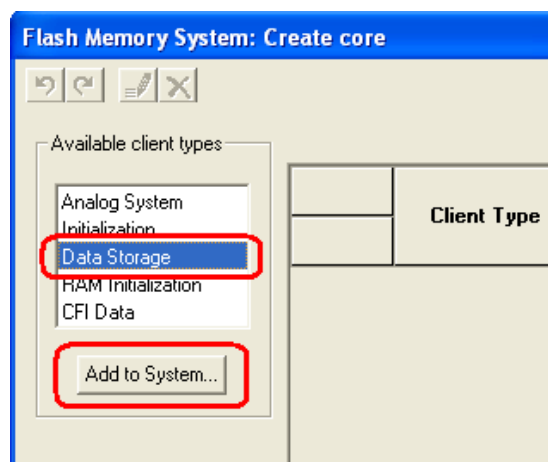

Figure 7-12 • Add Data Storage
- Select Data Storage client type and click **Add to System**, as shown in Figure 7-12.